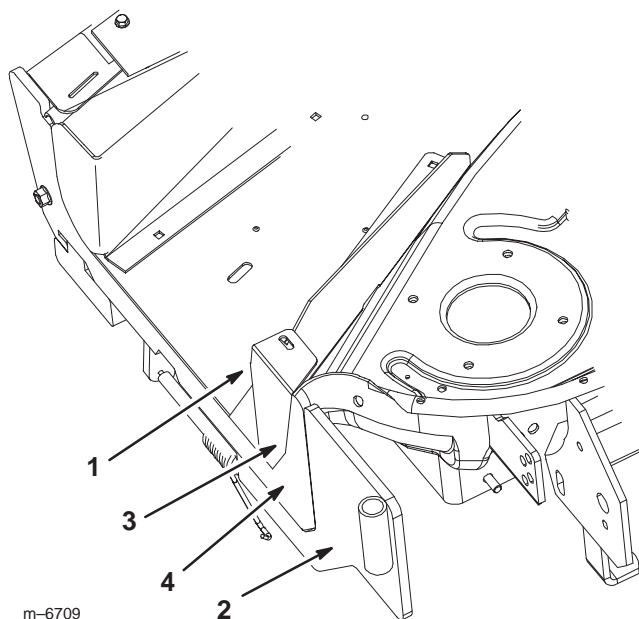

Figure 7
1. Place the rear tunnel baffle against the rear wall of the discharge tunnel (Fig. 7).
2. Align the rear tunnel baffle, flush with the outside of the mounting bracket (Fig. 7).